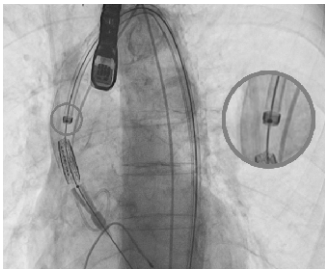

Figure 26:
- K.9. In the ascending aorta, verify the positioning of the distal radiopaque marker of the inflation balloon, which should overlap with the radiopaque marker of the deflectable sheath. If the balloon advances during navigation, reposition using the delivery system's fine-tuning system, as shown in Figure 26.